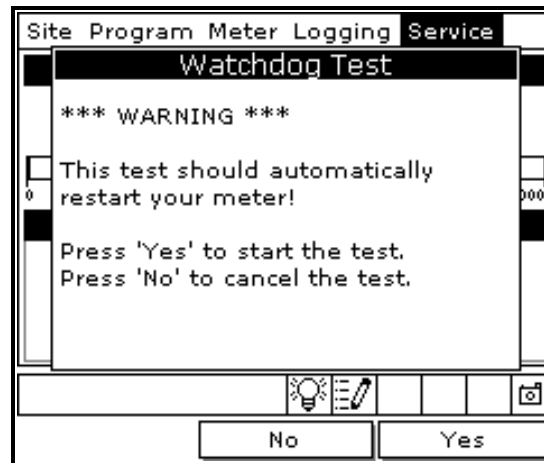

Figure 64: Watchdog Test Screen
4. Use the arrow keys to scroll to Watchdog Test and press **[ENTER]**. The screen appears similar to Figure 64.